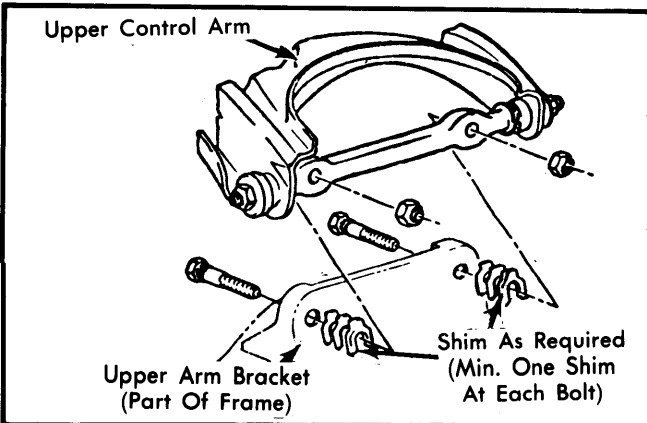

Fig. 34 Pontiac Caster and Camber Adjustment (Except Phoenix)
beyond nut. If shim pack thickness difference between front and rear exceeds .40", check for damaged control arms and related parts. See Fig. 34.
**All Models (Except Phoenix)** — To adjust camber, loosen pivot shaft-to-frame mounting nuts and remove or insert equal thickness of shims from front and rear bolts. If difference between front and rear shim pack thickness exceeds .40", check control arms and related parts for damage. See Fig. 34.